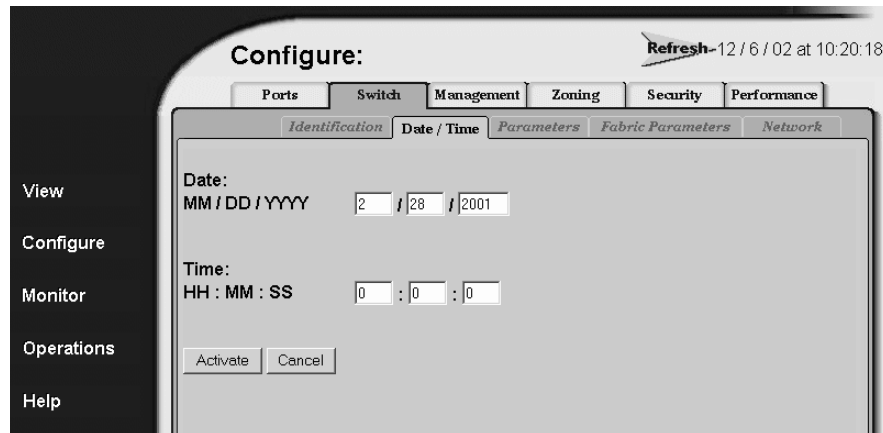

Figure 44: Switch page—Date/Time tab
1. At the **Configure** window, click the **Switch** tab, then select **Date/Time** tab. The Switch page displays with **Date/Time** tab selected (highlighted red) (Figure 44).